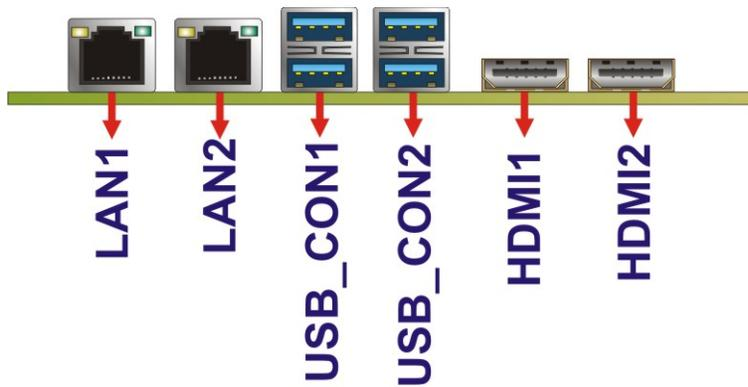

Figure 3-29: External Peripheral Interface Connector
Figure 3-29 shows the NANO-ULT3 external peripheral interface connector (EPIC) panel. The EPIC panel consists of the following:
- CN Location:** See Figure 3-29
- CN Location:** See **Figure 3-29**
CN Location: See **Figure 3-29**